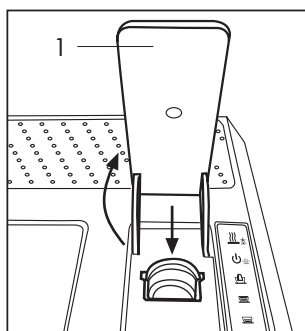

Fig. 9
- Lift the control lever (1) slowly backwards until it stops and insert a capsule in the space provided (**Fig. 9**).
- Close the lever (1) completely and press one of the dispensing buttons, long  (D) or short  (E) as preferred. If inserting a tea capsule press the button  (C)